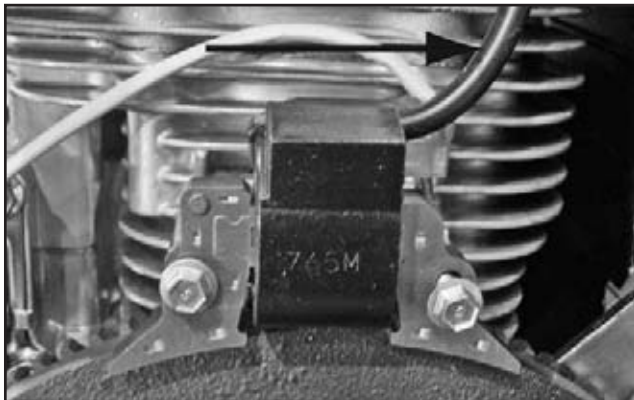
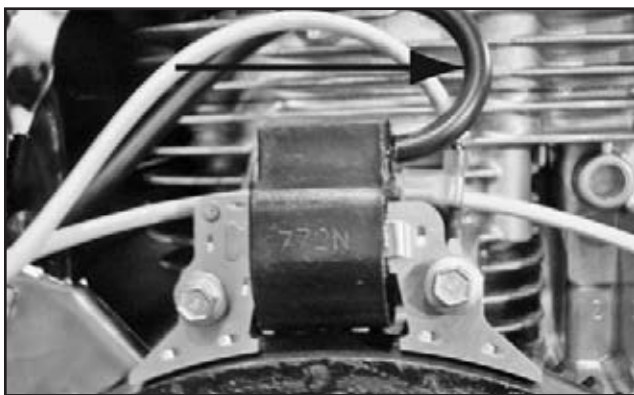

Figure 33. Cylinder One (Back, Short)
Figure 34. Cylinder Two (Front, Long)
3. Cylinder one is the back cylinder (Figure 33) and cylinder two is the front cylinder (Figure 34).